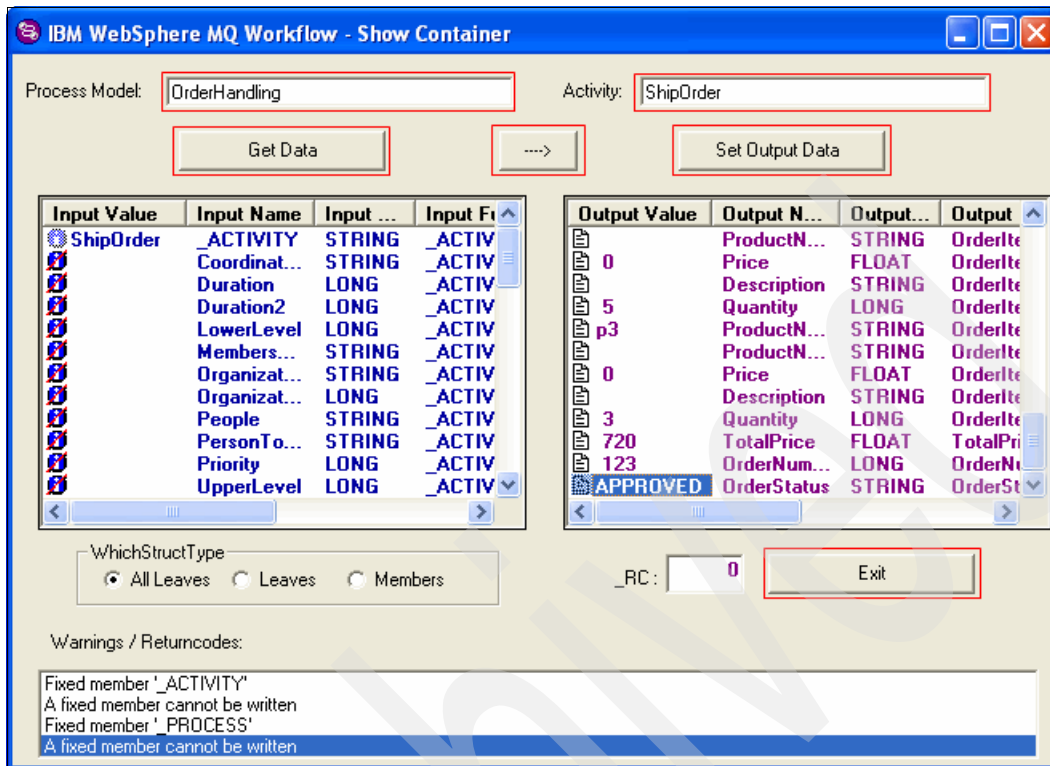

Figure 8-145 Setting the human task output
10. When the process instance goes into a human task, the IBM WebSphere MQ Workflow - Show Container window opens (Figure 8-145 on page 585). Steps a, d, f, and g are required to accomplish the task.